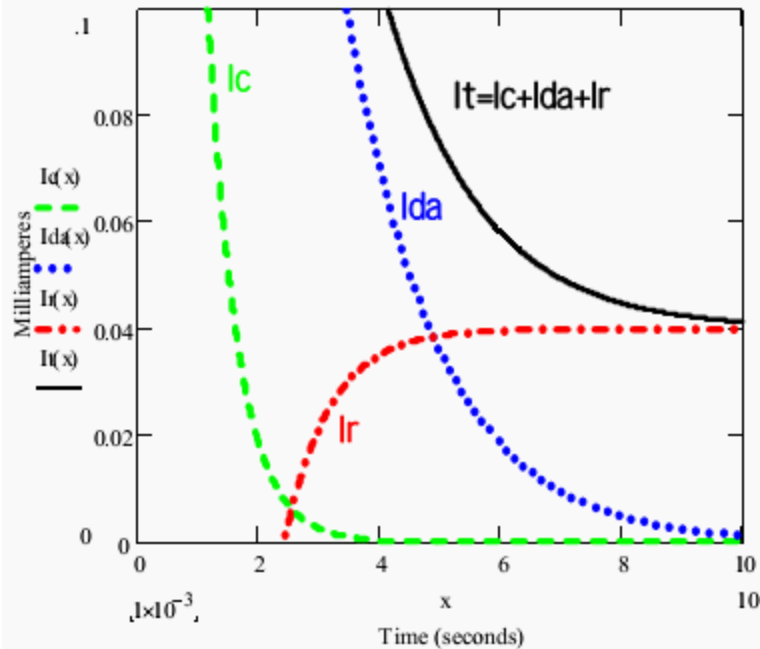

Figure 4 - DC current flow in good insulation
**Figure 4** show the time relationship for these three currents. The following paragraphs explain each of the three currents.